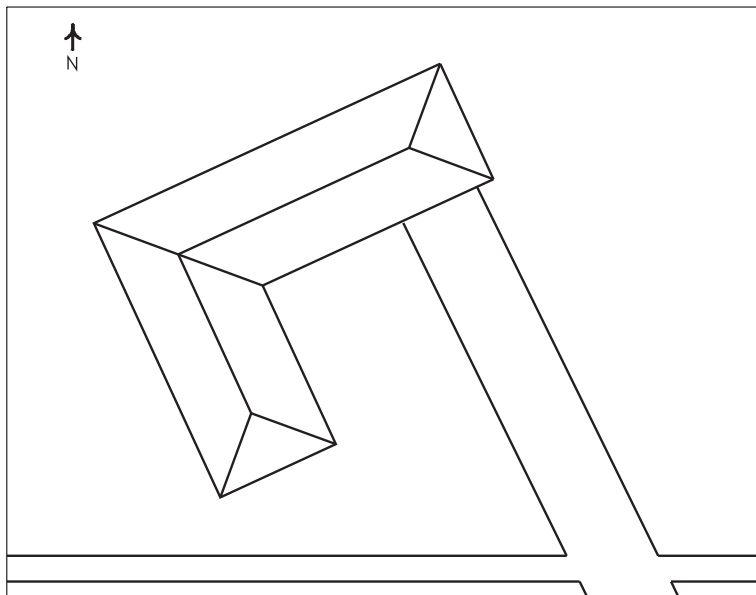

Fig. 18-4
4. Using the **TRIM** command, remove the short intersecting lines so that the sidewalk and driveway look like those in Fig. 18-4.